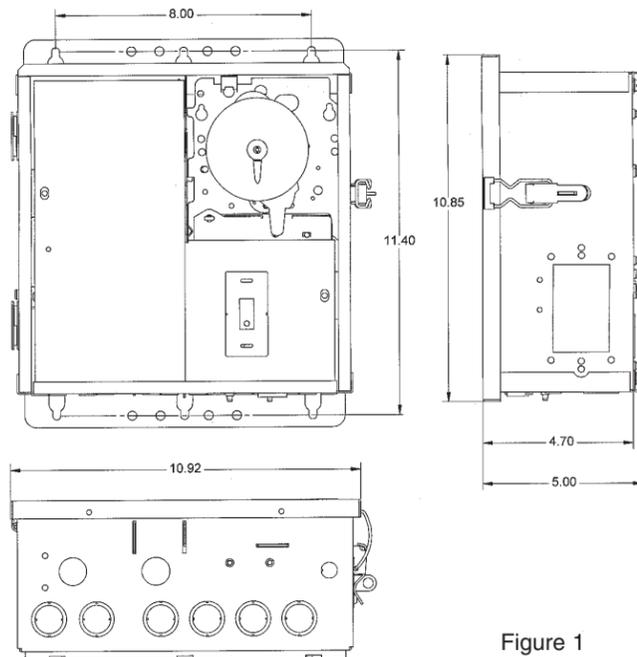

Figure 1
4. Refer to Figure 1 below; note that this enclosure contains one Time Switch. To wire the panel, follow the wiring diagram located inside the enclosure door. Make sure that connections to time switch terminals are tight (25 lb.-in. minimum) and insulation clears the pressure plate - see illustration.